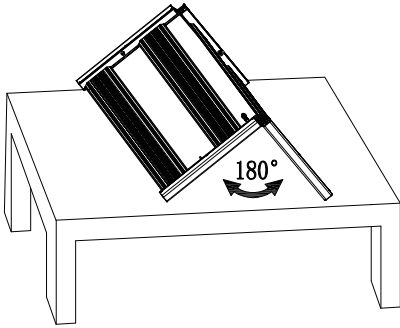

Fig. 3
c. Place the light fixture on a flat platform. Unfold panels of the light fixture so that LEDs are downward, as Fig. 3. Ensure hinge is fully extended and light panels are completely flat.